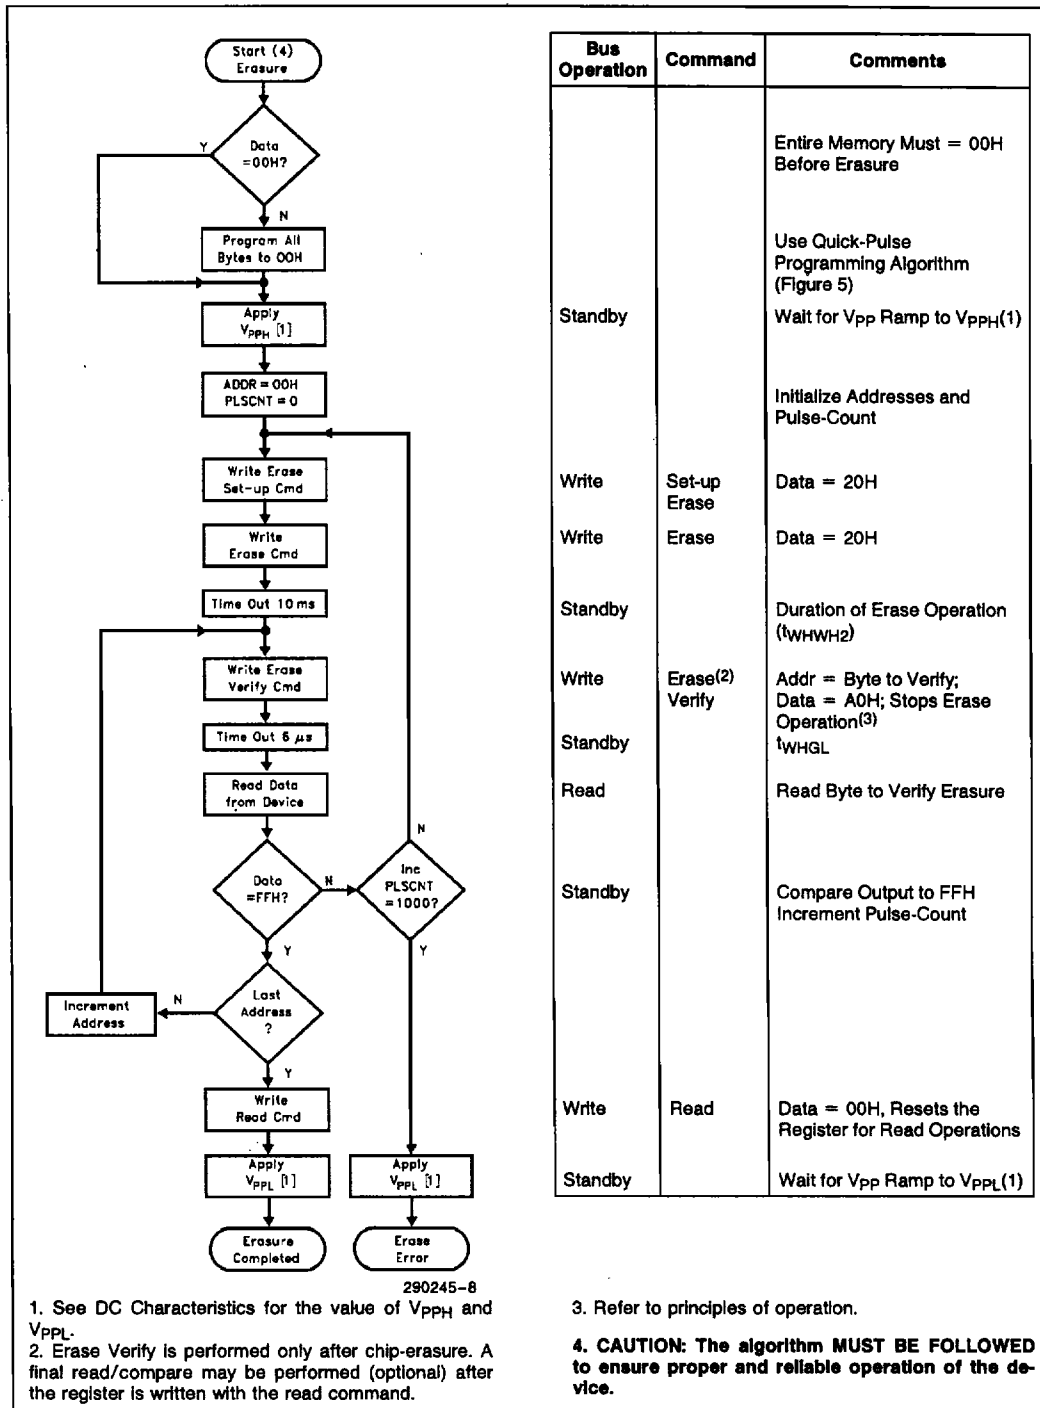

Figure 5. 28F020 Quick-Erase Algorithm
- Figure 5 illustrates the Quick-Erase Algorithm.
In the case where the data read is not FFH, another erase operation is performed. (Refer to Set-up Erase/Erase). Verification then resumes from the address of the last-verified byte. Once all bytes in the array have been verified, the erase step is complete. The device can be programmed. At this point, the verify operation is terminated by writing a valid command (e.g. Program Set-up) to the command register. Figure 5, the Quick-Erase algorithm, illustrates how commands and bus operations are combined to perform electrical erasure of the 28F020. Refer to AC Erase Characteristics and Waveforms for specific timing parameters.
Erase execution then continues with an initial erase operation. Erase verification (data = FFH) begins at address 0000H and continues through the array to the last address, or until data other than FFH is encountered. With each erase operation, an increasing number of bytes verify to the erased state. Erase efficiency may be improved by storing the address of the last byte verified in a register. Following the next erase operation, verification starts at that stored address location. Erasure typically occurs in two seconds. Figure 5 illustrates the Quick-Erase algorithm.